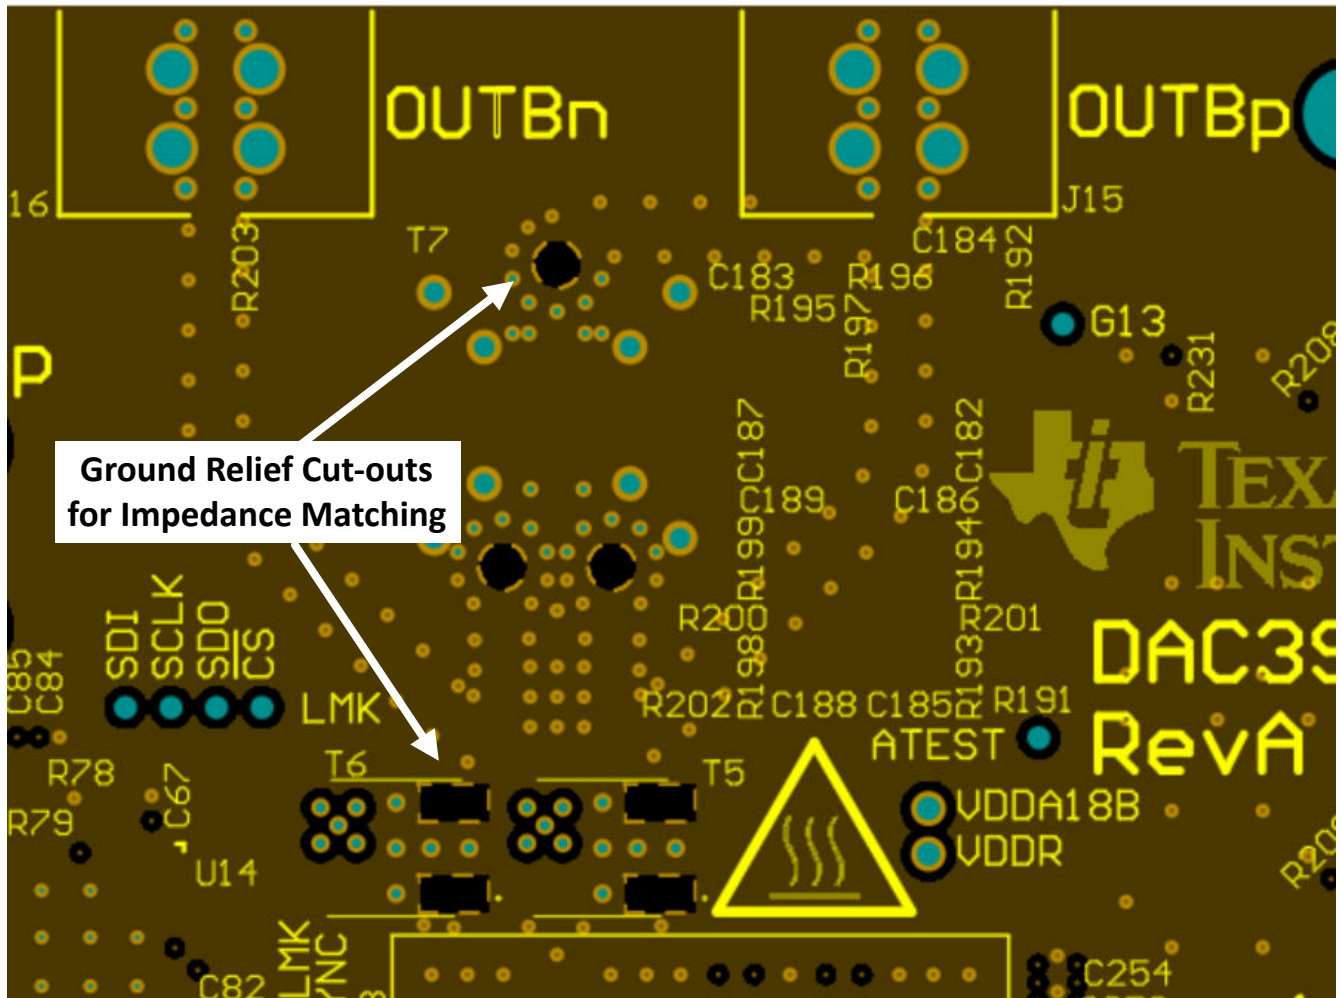
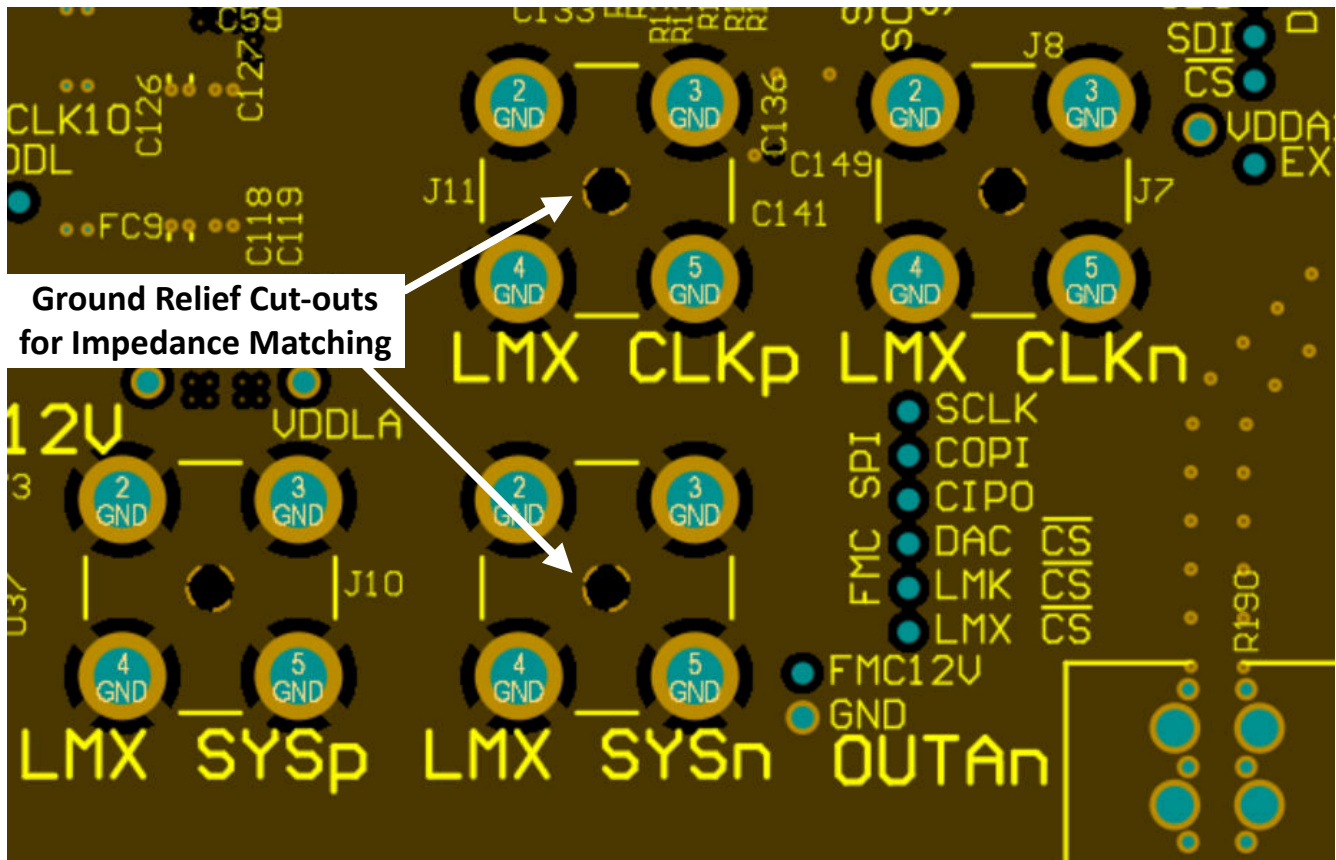

Figure 8-24. Ground Cut-outs below Balun and Bias-T Pins
Figure 8-25. Ground Cut-out Below SMA Connector Center Pin
5. Incorporate any ground plane cutouts necessary at component landing pads, ie – SMA connectors, baluns, etc., to avoid impedance discontinuities at these locations. Cut-outs below these landing pads on one or multiple ground planes to achieve a pad size or stackup height that achieves the needed 50- Ω , single-ended impedance. See Figure 8-24 and Figure 8-25 as an examples.